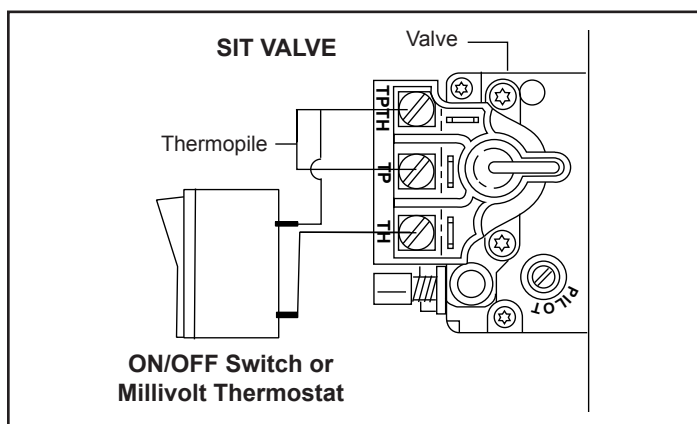

Figure 3.32 - Install wiring to switch before connecting to valve.
3. Attach wires to valve terminals. (Figure 3.32)
2. Connect the thermostat wires to the valve. (Figure 3.32)